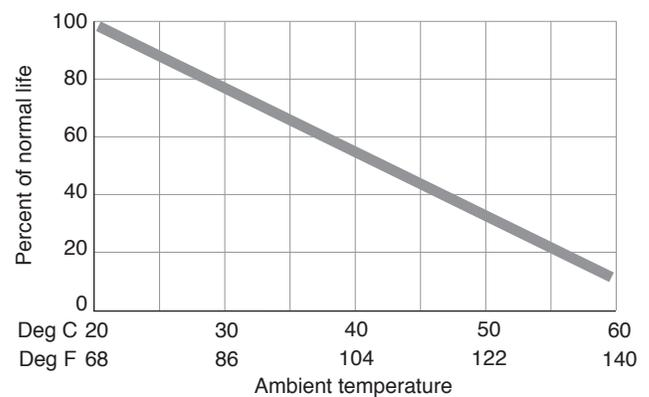

Figure 7. Effect of temperature on battery life.
**Effects of Temperature:** The temperature at which a battery is used also affects the relative capacity of the battery. Figures 7 and 8 show that in cold weather the shocking time will be less and the battery will have less capacity.